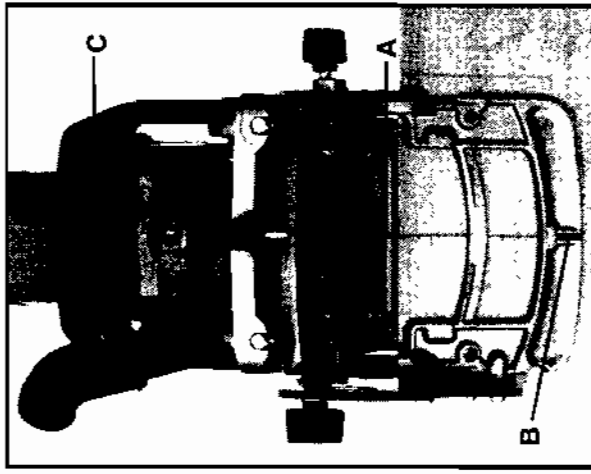

Fig. 27
6. Position machine to workpiece utilizing either guide notch (A) or (B) Fig. 27, to align machine with a groove centerline. Apply pressure to auxiliary handle (C) Fig. 27, to hold machine firmly in place.